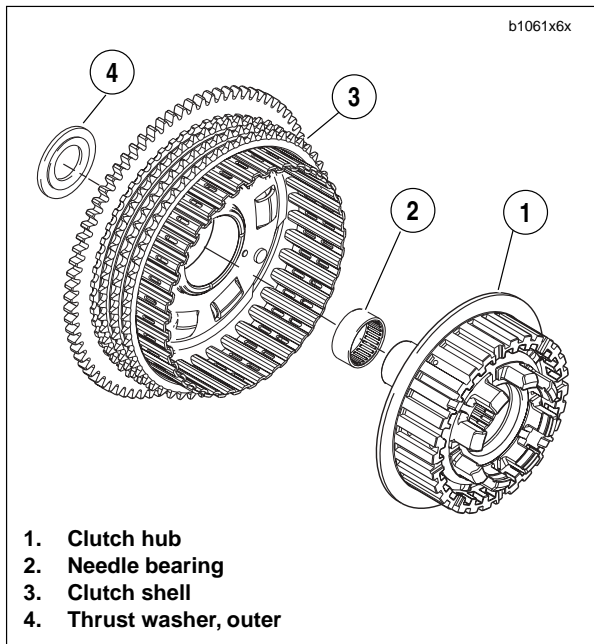
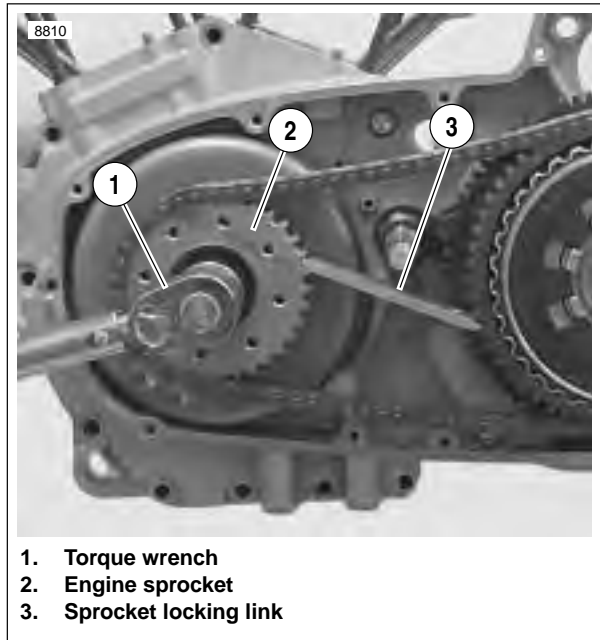

Figure 6-33. Clutch Hub and Shell Assembly
Figure 6-34. Sprocket Locking Link
1. See Figure 6-33. Assemble clutch hub (1) and shell (3) by sliding inboard end of clutch hub into shell bearing(2) by hand. No tools are required.
3. Verify that outer thrust washer (4) is installed on transmission shaft.
5. See Figure 6-34. Install the engine sprocket nut.